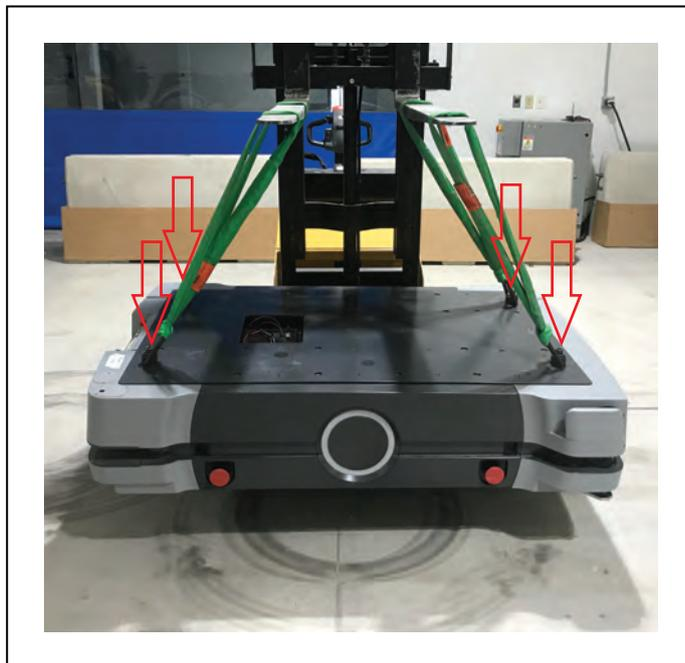

Figure 8-9. Attaching the Lifting Rings and Straps
1. Attach the OMRON-supplied lifting rings, using a 14 mm Allen wrench, to the locations shown in Figure 8-9. There are four bolt holes on the HD-1500 for attaching the lifting rings. Once the lifting rings are attached, tie and secure the straps Figure 8-9.